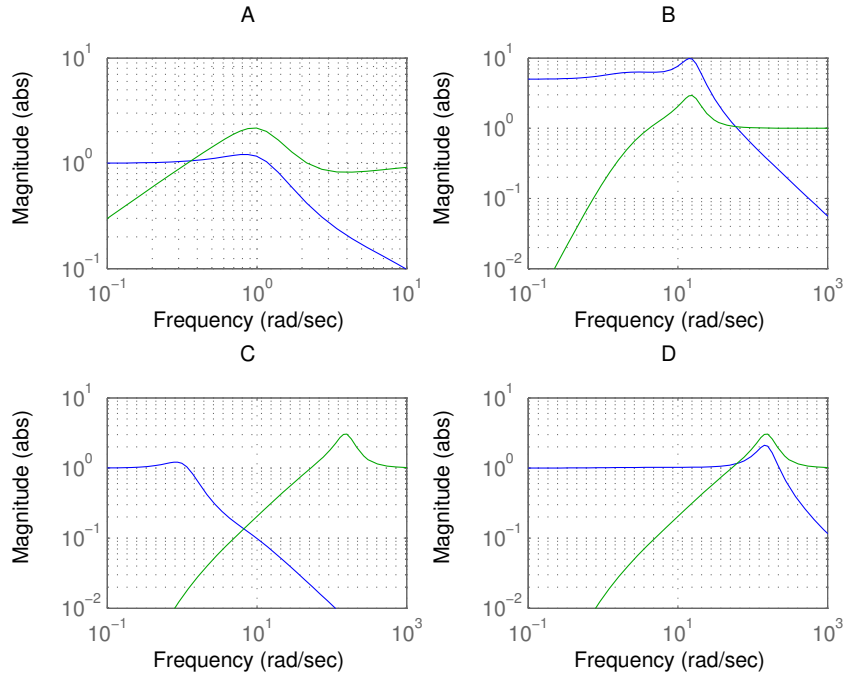

Figure 14.3 Magnitude plots of S and T in problem 6.
- c. Figure 14.3 shows four plots, where one of the plots shows the sensitivity and complementary sensitivity function of a closed loop system discussed in b, with $\omega_0 = 1$ and a particular choice of $C_2(s)$. Which plot? Motivate your